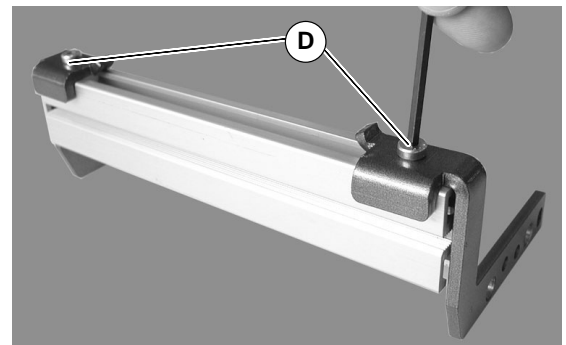
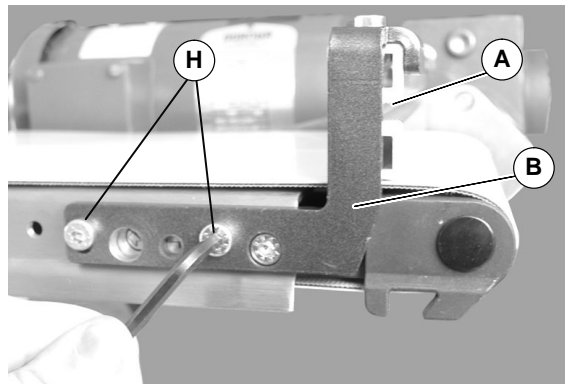

Figure 11
Figure 15
4. Loosen the socket head screws (D of Figure 11) on the end stop assembly.
8. Place the remainder of the end stop assembly (A & B of Figure 15) on end of conveyor and attach non-gearmotor mount side with head plate screws (H) tighten to 57 in-lbs (6.4 N-m).
NOTE: If used with Heavy Load Gearmotor Mounting Package, End Stop bracket (B of Figure 15) replaces mount spacer as shown in figure 16.
9. Center the end stop (A of Figure 15) on the conveyor and tighten screws (D of Figure 11) to 57 in-lbs (6.4 N-m).